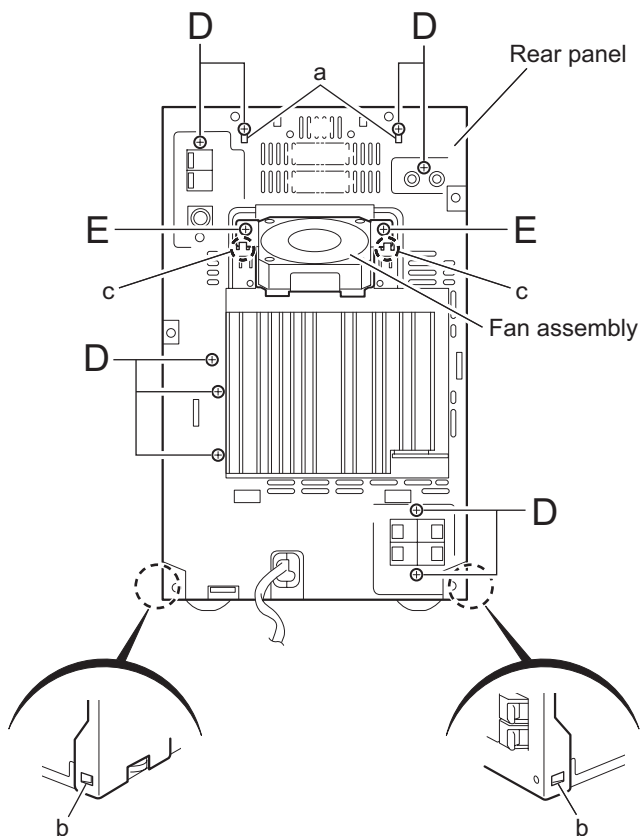

Fig.5
2.1.3 Removing the rear panel / fan assembly (See Fig.5,6)